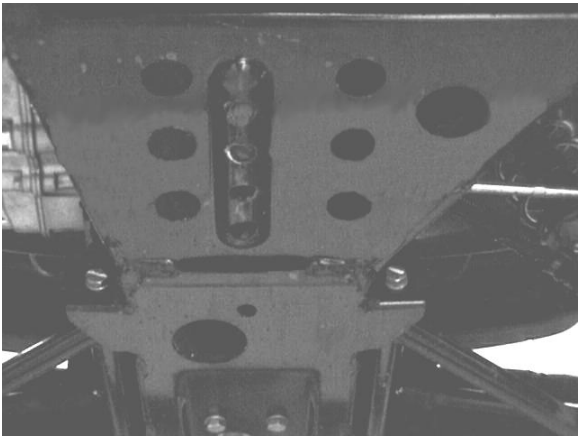

Figure 1
1. Install the frame mounting plate onto the bottom side of the skid pan as seen in Figure 1. The frame mounting plate has a round plug on the top side that will fit into the right front hole of the skid pan behind the A-arms.